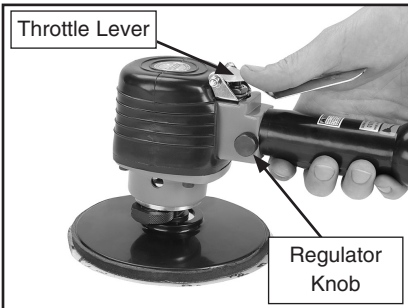

Figure 3. Sander controls.
2. Hold the sander firmly and press the throttle lever (**Figure 3**) to turn it **ON**.
3. Turn the regulator knob (**Figure 3**) to adjust the speed of the sanding disc.